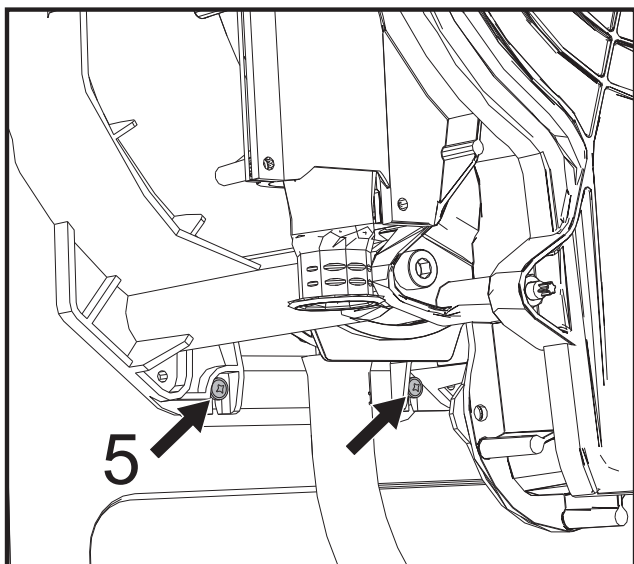

fig. 52
- Loosen the 2 **bottom screws "5"** securing the exchanger to the frame (fig. 52)